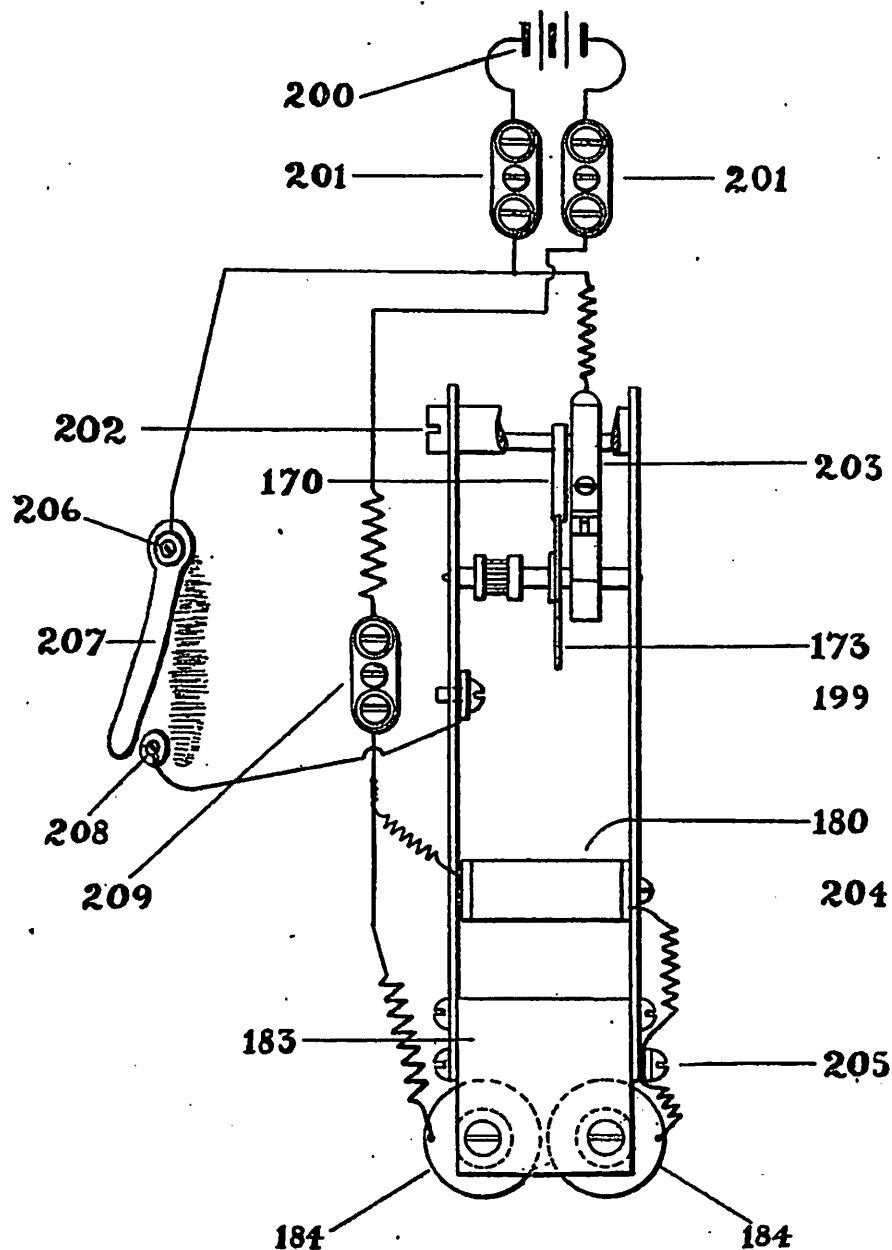

Fig. 10
1. Having set and connected batteries as per instructions, press "setting key" sixty (60) times, after which the clock will automatically wind itself once each minute, winding on the half minute. The "setting key" 207, Fig. 10, is located at left hand side of case, just below master clock dial. It is a good plan to press the "winding key" fifteen or twenty times, once each month or two, simply to make sure that the master is winding properly, and the battery is in working order. Should you press the "winding key" and not hear the winding armature click you will know winding battery is run down. Don't press "winding key" when second hand is at 60, as the secondary clocks are then operated and may be "scattered".
3. The master clock is regulated in same manner as any ordinary clock, by means of the adjusting nut under pendulum ball. To regulate pendulum, stop it when the second hand is one or two seconds past 60, then with left hand carefully support pendulum bob while with thumb and forefinger of right hand you turn adjustment nut, being careful not to twist pendulum. If the clock gains, lower pendulum bob; if it loses, raise it: Turning adjusting nut so that its front edge moves from left to right, raises pendulum bob and vice versa. One full turn of adjusting nut makes a difference of about $\frac{1}{2}$ minute in twenty-four (24) hours. When variation is but a few seconds per day a small fraction of a turn of the nut will suffice.
Fig. 10 shows manner of connecting wires and battery. 200 is winding battery, the wires of which are connected to binding plates 201 on top of master clock; 207 is the "winding key" for winding driving spring 181, as per in-
When self-winding master clocks are to operate secondary clocks they are fitted with two circuit closers as shown in Fig. 10, one operates the winding mechanism and the other the secondaries. The secondary clock circuit closer operates when the second hand is at 60 and winding circuit closer when second hand is at 30. This circuit closer consists of a vibrating and a revolving contact.